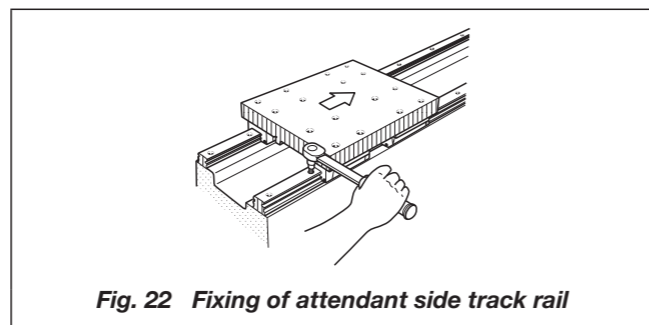

Fig. 22 Fixing of attendant side track rail
- While moving the table by hand and ensuring its smooth movement, fix the Linear Way II track rail to the bed with the mounting bolts. During this procedure, tighten the mounting bolt immediately behind the fixed slide unit of Linear Way, while progressively moving the table from one rail end to the other. (See Fig. 22.)